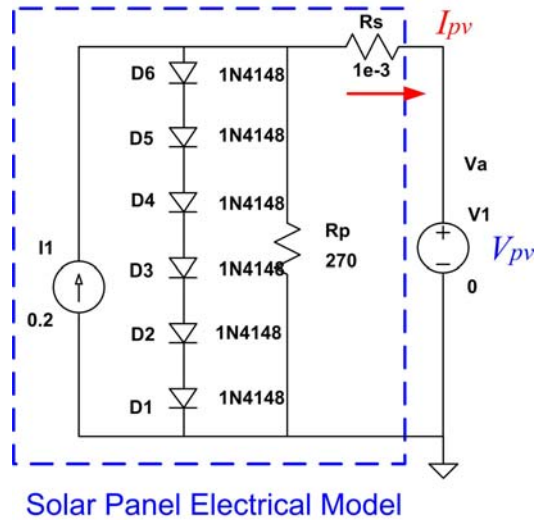

Figure 5: Simulation circuit in LTspice
1. Simulate the circuit of Figure 5 in LTspice. Set up the current source (i.e. the light generated current) to be 0.2A. Use 1N4148 as the diode model (six solar cells). Set up the load to be a voltage source V1.